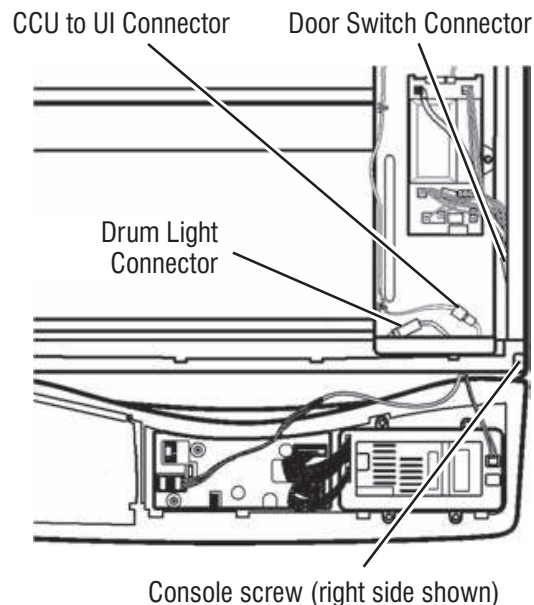

Figure 25 - Remove console.
A: Remove Console (Figure 25)
2. Disconnect the drum light harness at the inline connector as shown in figure 25.
3. Disconnect the CCU to UI harness at the inline connection as shown in figure 25.
6. Disconnect door switch connector (See Figure 25, page 23).
10. Disconnect drum light connector (See Figure 25, page 23).